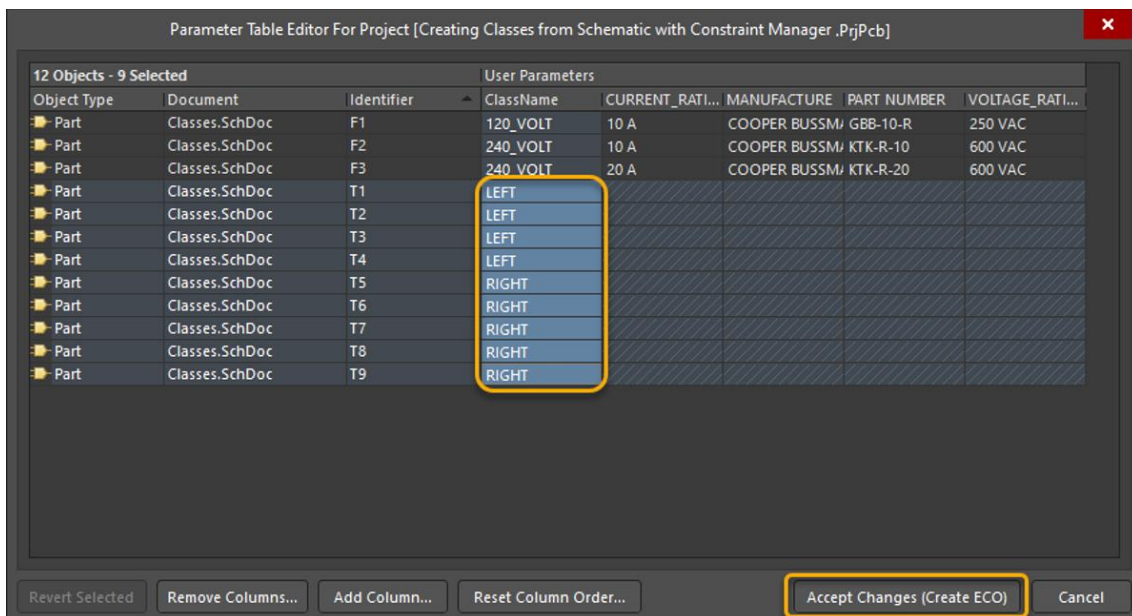
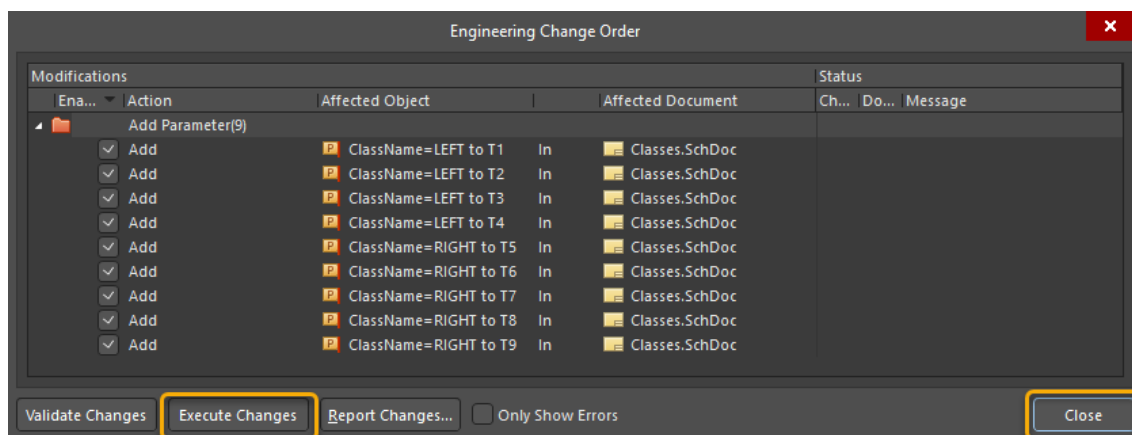

Figure 15. Populated Parameter Table
Figure 16. Engineering Change Order
54. Your parameter table should now look similar to what is shown below, Figure 15.
55. Select **Accept Changes (Create ECO)**, Figure 15, to generate an ECO list, Figure 16.